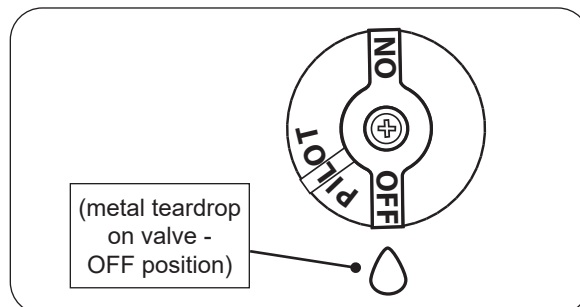

Fig. 27-2 Pilot shut down
2. Locate the valve on the side of the unit. Push in the gas control knob slightly and turn clockwise  to **OFF** (see Fig. 27-2).
Push in the control knob slightly and turn clockwise  to **OFF**. Do not force. See Fig. 27-2.